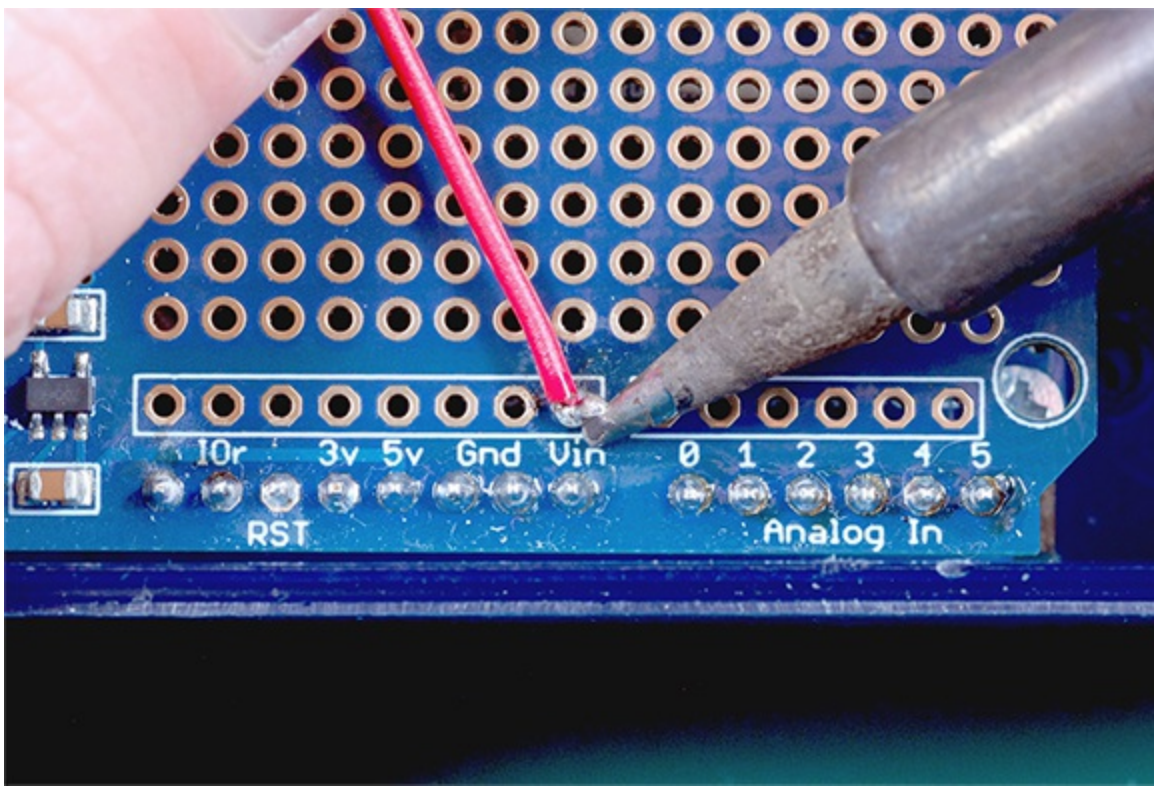

Figure 13-18: Soldering your power input wire.
7. Now, solder the red power wire from your power switch to the input power pin labeled Vin, as shown in Figure 13-18.